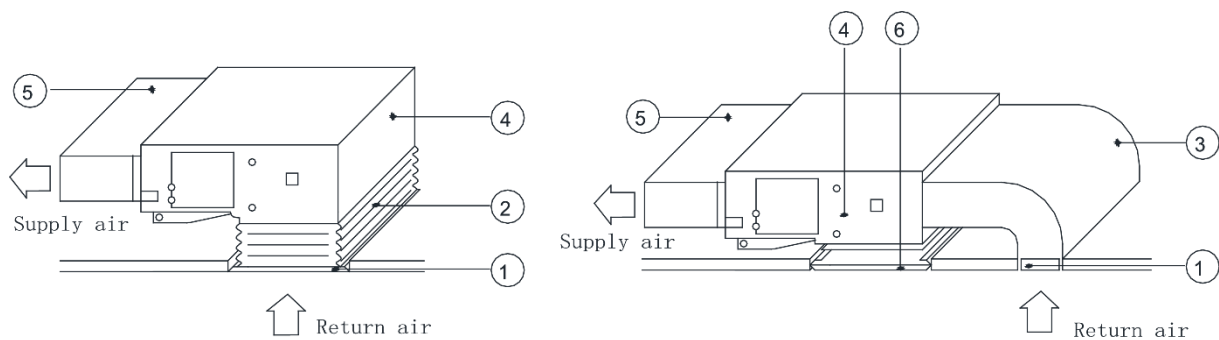

Fig 4.4.7
(5)Choose the best installation method by considering the building conditions and accessibility needed maintenance etc., as shown in Fig 4.4.7.